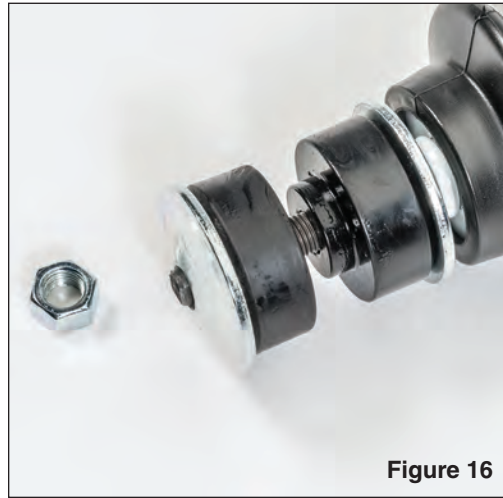

Figure 16
*Assemble the shock top bushings exactly as shown (see FIG 16).*